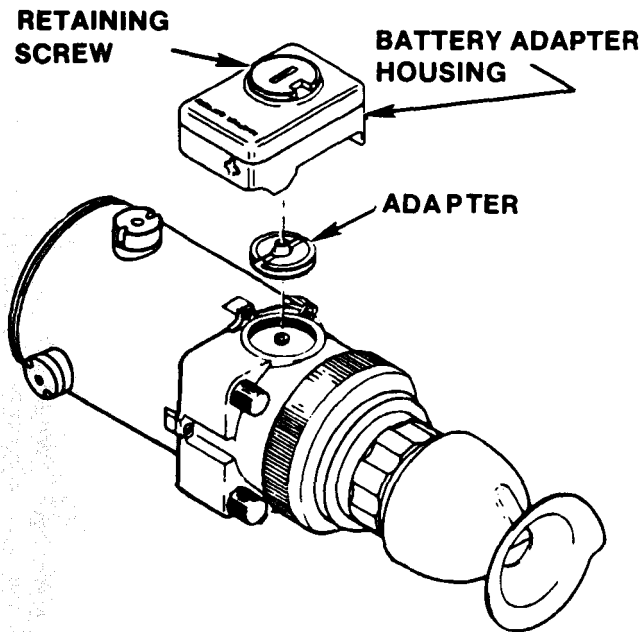

Figure 2-7. Installation of Battery Adapter.
d. Installation of Battery Adapter (fig. 2-7).
(1) Remove top battery cap by turning counterclockwise.
(2) Remove top battery from cap
(3) Install adapter in place of top battery cap. Tighten using notched side of retainer screw as a tool.
(4) Properly position the adapter housing on the adapter.
(5) Insert retainer screw in top of housing. Turn clockwise to tighten.